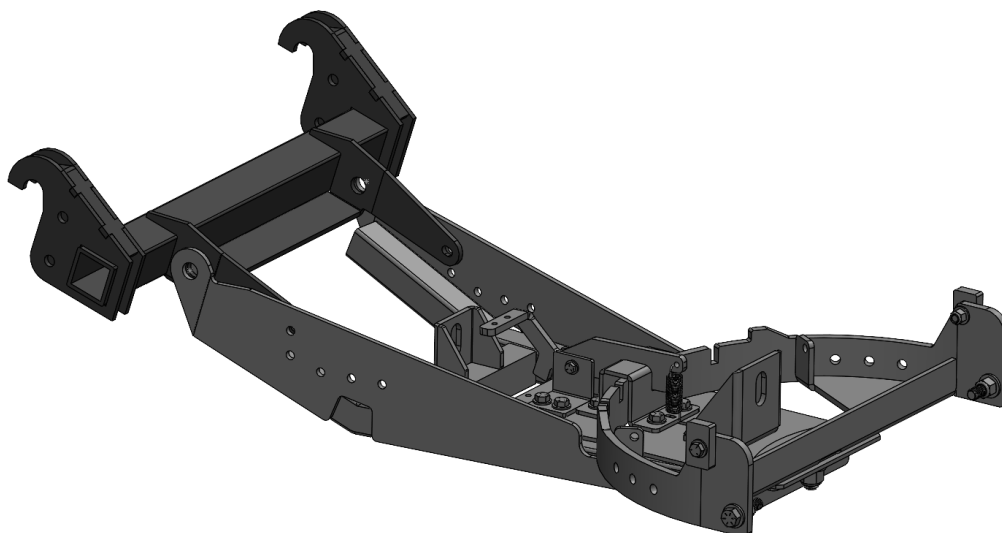

Figure 1
1. Hold the MA11752A Plow Mount on the pushtube as shown in Figure 1. The 3/4" holes on the pushtube should line up with the 3/4" holes on the MA11752A Plow Mount. (See Figure 1)